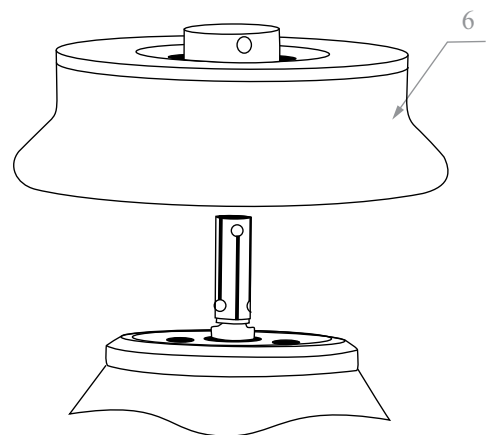

Figure 11: Sketch map of rotor installation
- Clean the cone section (see Fig. 11);